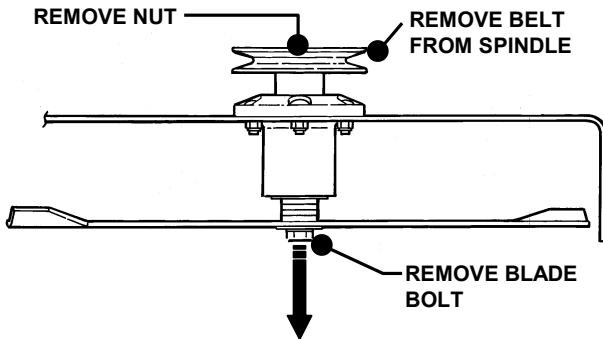

FIGURE 5.11
1. Remove belt. Loosen blade nut and remove. Allow blade bolt, washer, blade and four spacers to drop down out of the spindle housing. See Figure 5.11.